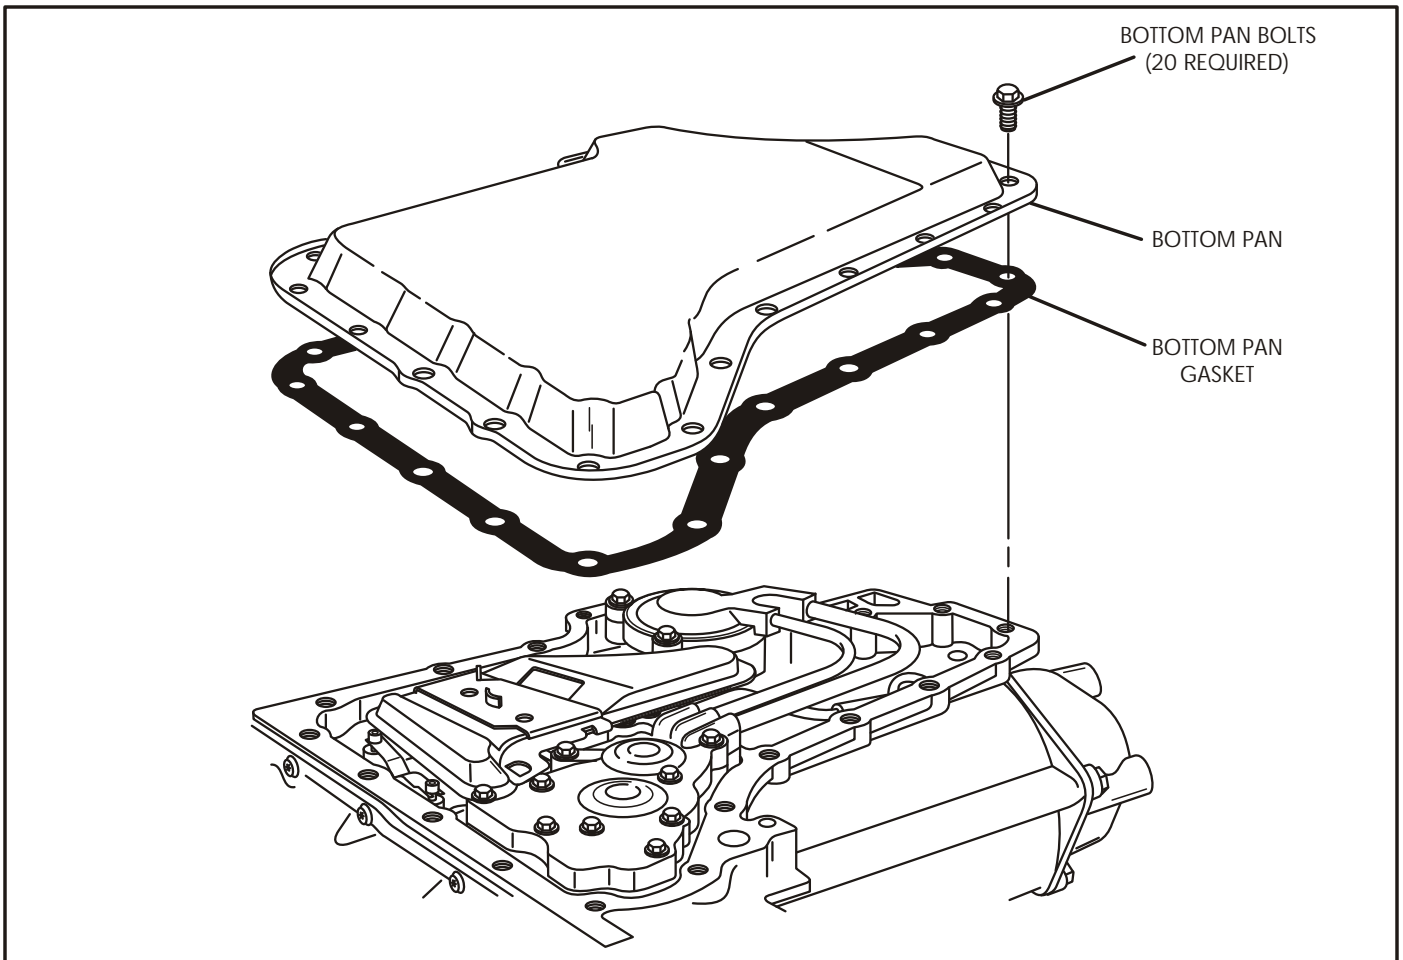

Figure 206
24. Install the bottom pan gasket on the transaxle case, as shown in Figure 206.
25. Install the bottom pan onto the transaxle case, as shown in Figure 206.